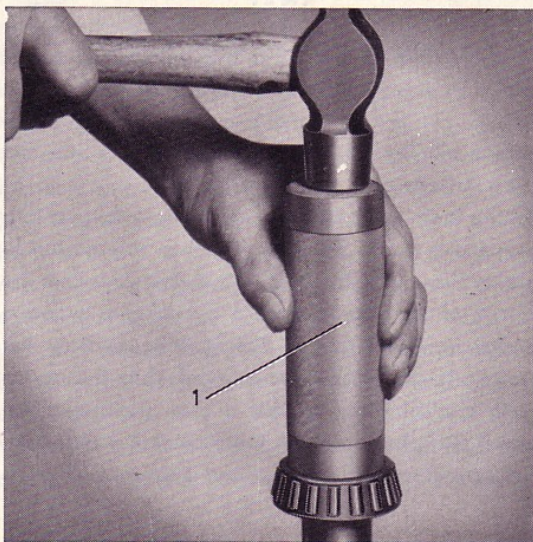

Fig. 30. Fitting the drive shaft bearings.
2. Drive the bearings (15) on to the drive shafts if they have been removed. Use tool SVO 1805 as shown in Fig. 30.